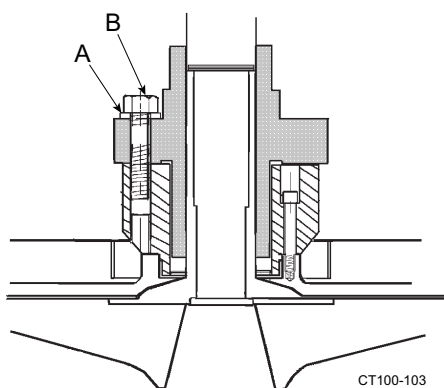

Figure 51 - Removal of Wet End
3. Remove the impeller retainer bolt and O-ring; then loosen the seal setscrews (Figure 51, item A).